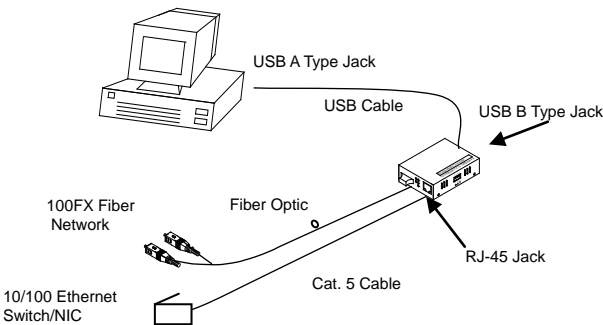

Fig. 2 Connection among USB (Type B-to-Type A Plug), Fiber and TP Cables
- ⇒ Install USB cable. Plug type A connector in PC's USB port(jack) and type B connector in the converter's USB port (See Fig. 2)